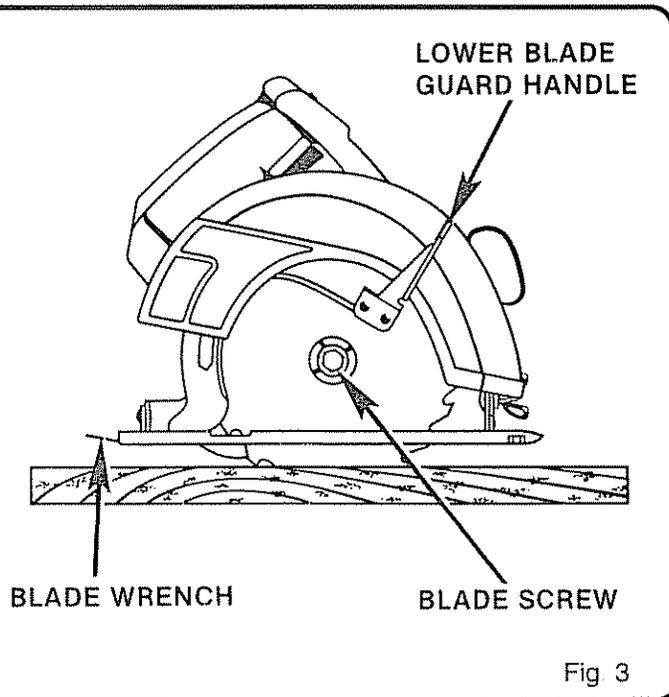

Fig 3
2. Place your saw on a piece of scrap wood as shown in figure 3 and remove blade screw. **NOTE:** With blade teeth embedded in the wood, turn blade screw counterclockwise to remove.